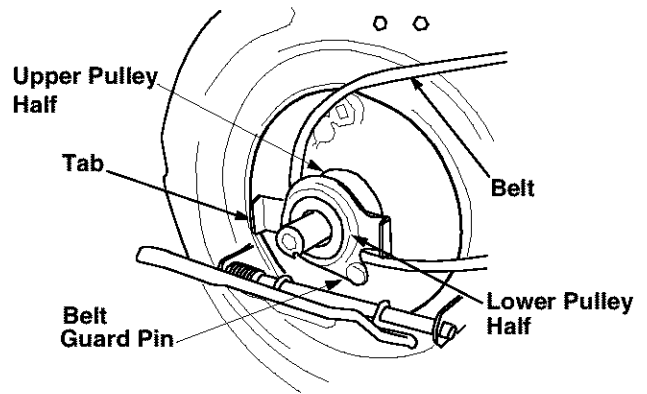

Figure 22
- Place the belt between the two pulley halves on the crankshaft. Make sure to route the belt inside the belt guard pin. See Figure 22.